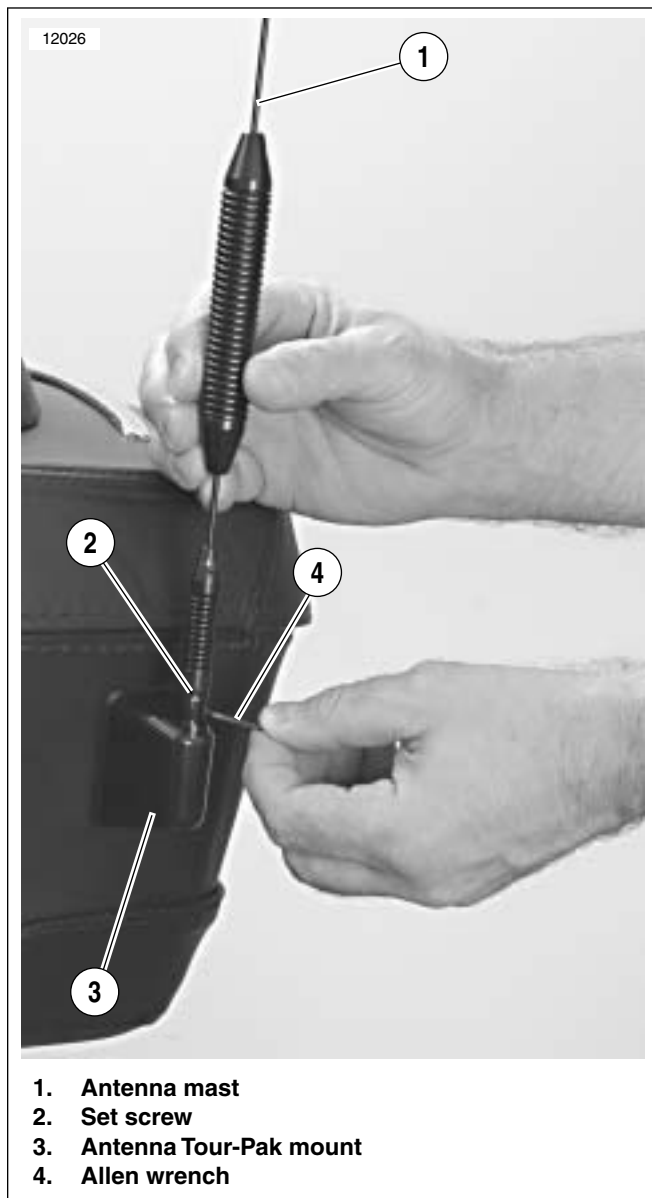

Figure 2-53. Removing/Installing CB Antenna
1. See Figure 2-53. Loosen set screw (2) with allen wrench (4).
2. Unscrew antenna mast (1) from antenna Tour-Pak mount (3).
1. See Figure 2-53. Screw antenna mast (1) into antenna mount (3) on Tour-Pak.
2. Tighten set screw (2) with allen wrench (4).